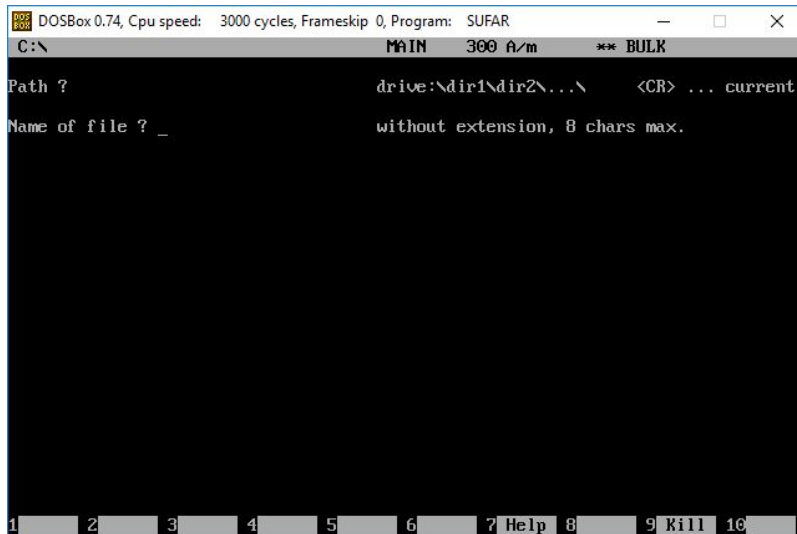

Figure 18. Sufar window prompting user to enter a file name with a maximum of eight characters
9. At the prompt **Name of file?**, enter a file name that is less than 8 characters with no extension (**Figure 18**).